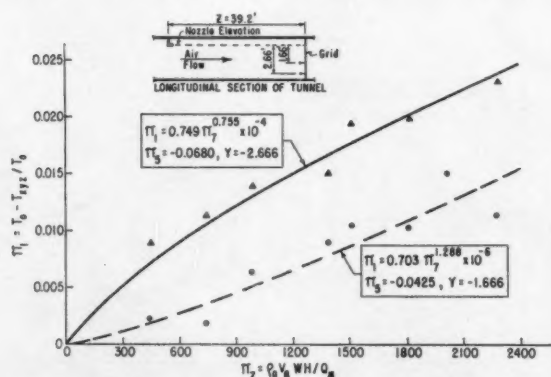
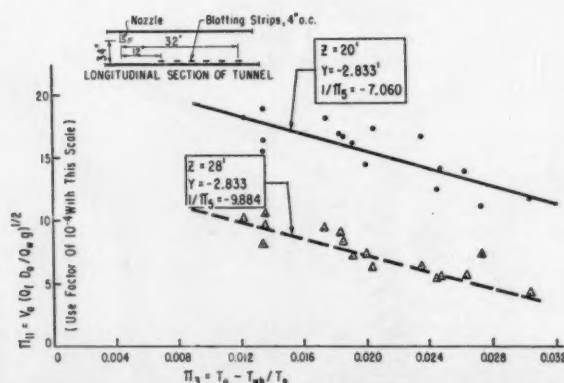

Fig. 4 Plot of  $\pi_1$  vs.  $\pi_7$  for two different vertical positions in the airstream
Fig. 7 Plot of  $\pi_{11}$  vs.  $\pi_3$  for two values of  $1/\pi_5$
A complete listing of the variables and pi terms or dimensionless parameters considered in the study is given in reference 12. Variables used in this paper are shown in Table 1 and the dimensionless parameters formed from these variables are shown in Figs. 4, 5, 6, and 7. In studies concerned with temperature reduction,  $\pi_1$  (Fig. 4) was considered the dependent quantity. In studies dealing with drop fallout,  $\pi_{11}$  (Fig. 7) was considered the dependent quantity.
The functional relationship that existed between  $\pi_1 = T_o - T_{xyz} / T_o$  and certain of the other pi terms was found to depend largely upon the point where  $T_{xyz}$  was determined. Increasing the air to water ratio by increasing air velocity did not necessarily reduce  $\pi_1$ . Fig. 4 shows a plot of  $\pi_1$  vs  $\pi_7 = \rho_a V_a W H / Q_w$  wherein  $\pi_7$  was changed by changing the air velocity. Air velocity was the only variable in  $\pi_7$  that could be changed without affecting the constancy of some of the other pi terms. The data used to plot Fig. 4 were taken at a point 39.2 ft downstream from the nozzle and for the two positions below the nozzle indicated. In both positions, the cooling effect increased as  $\pi_7$  increased. The apparent reason for this was a vertical shifting of the cool air and fog as discussed later. The cooling effect was less for the position closest to the nozzle vertically as indicated by the dashed line. For a vertical position even with or above the nozzle there was virtually no temperature reduction over the full range of  $\pi_7$  used.
The data used to plot the curves in Fig. 4 appeared to fit a straight line on log-log paper. The constants used in the equations for the curves in Fig. 4 were determined by a regression analysis. The equations obtained may not be valid beyond the range of  $\pi_7$  shown since rationalization leads to the conclusion that the curves must have an upper limit.
Fig. 7 shows a plot of  $\pi_{11}$  vs  $\pi_3$  for two values of  $Z/Y$ . The value of  $Y$  was constant at 2.833 ft, and the two lines shown are for  $Z$  equal to 20 and 28 ft as indicated. The lines were fitted to the data by a regression analysis. If the straight-line relationship prevailed at higher values of  $\pi_3$ , it is unlikely that the intercept on the  $\pi_3$  axis corresponding to the 20-ft station would be encountered in normal operation of the fogging system. That is, some fallout would occur at a point 20 ft from the nozzle for any expected ambient air condition. At the 28-ft station, it is quite possible that no fallout would occur on hot dry days.
An equation was developed for predicting  $\pi_{11}$  when  $\pi_5$  and  $\pi_3$  are known and the other system parameters are held constant at the values used in Fig. 7 (Table 2). This equation is
The effect of air velocity should be given prime consideration in the design of fog cooling systems. Fig. 4, 5, and 6 have been selected from a more detailed study (12) for purposes of illustration. The equations shown in Fig. 4 are valid for predicting cooling effect only when the conditions in Table 2 corresponding to the figure are met.